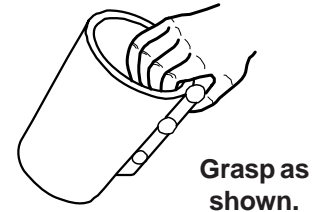
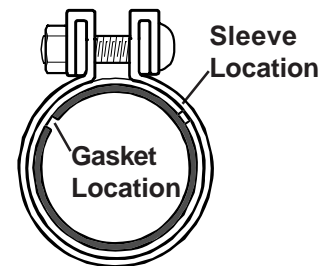

Figure 1
Figure 2
1. Couplings are shipped ready-to-install... do not disassemble. To prevent gasket from slipping out of proper position, always grasp coupling as shown in Figure 1. This will save time by maintaining proper position of gasket and sleeve in relation to shell and flange.
3. Grasp coupling as shown in Figure 1 to keep gasket and sleeve (and gasket protector when used) in separate quadrants, as shown in Figure 2. Be sure gasket teeth mesh and do not overlap.